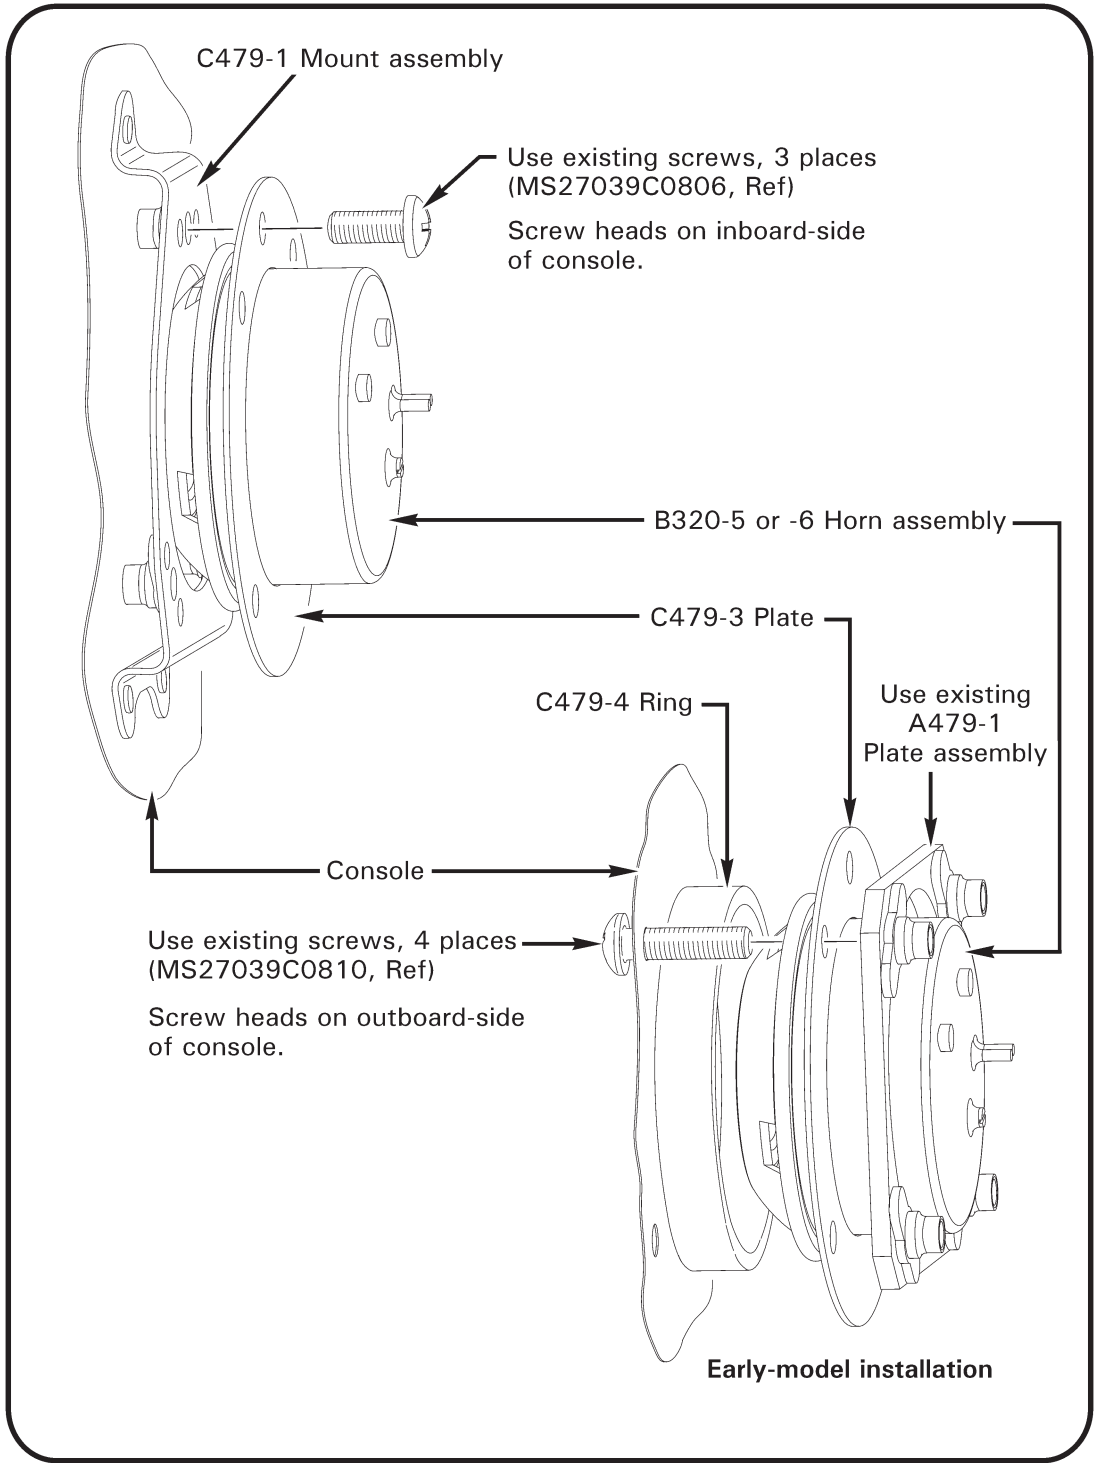

FIGURE 1
3. Refer to Figure 1. Install B320-5 or -6 horn as shown, discarding C479-4 ring if installing horn to C479-1 mount assembly. Secure using retained screws.